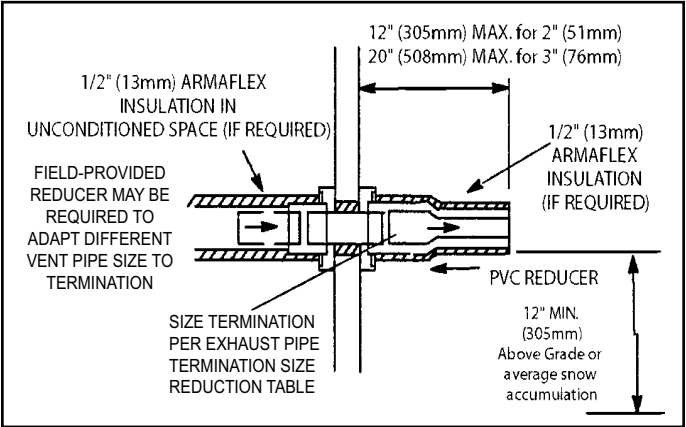

Figure 46. Non-Direct Vent Field Supplied Wall Termination
- 2. On field supplied terminations for side wall exit, exhaust piping may extend a maximum of 12 inches (305 mm) for 2" PVC and 20" (508 mm) for 3" PVC beyond the outside wall. See Figure 46.